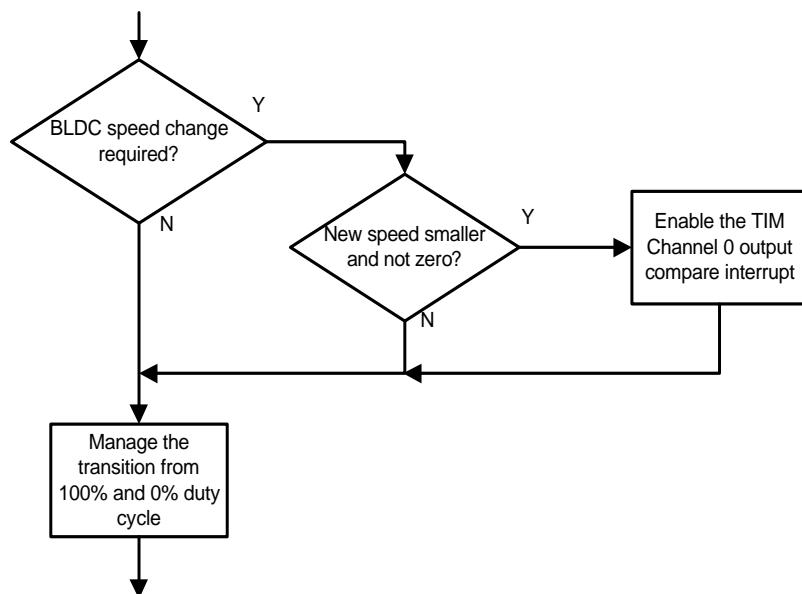

Figure 8: Manage the PWM Subtask Flow Chart
- **Manage the PWM** — used for managing the transitions from 100% and from 0% duty cycles, as well as for management of the BLDC speed decrease request. The flow chart of this subtask is shown in Figure 8